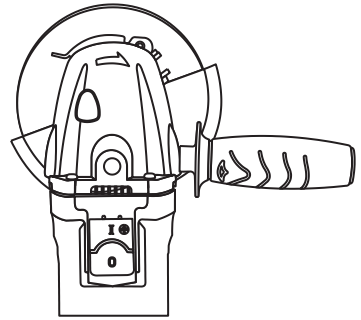

Fig. 6
- Install the auxiliary handle (1) by turning the screw (2) clockwise into the gear housing (3)
- The handle can be installed in three different positions; left side, right side or in the middle of the tool (Fig. 6, 7 & 8).